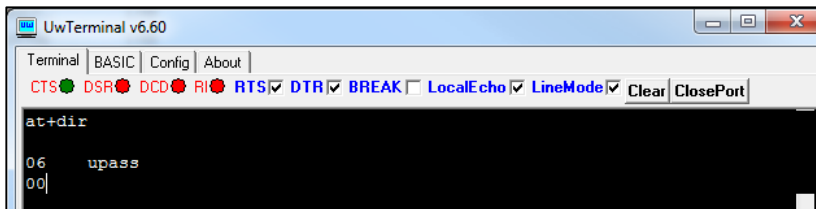

Figure 2: Directory showing "uclp" app loaded
5. Confirm that the **uclp** application is loaded by using the command **at+dir** (Figure 2).